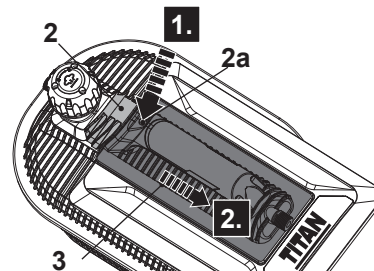

Fig. 2
2. Press down the lock button (2a) and remove the steam plate (3) from the carry handle (2) (Fig. 2).